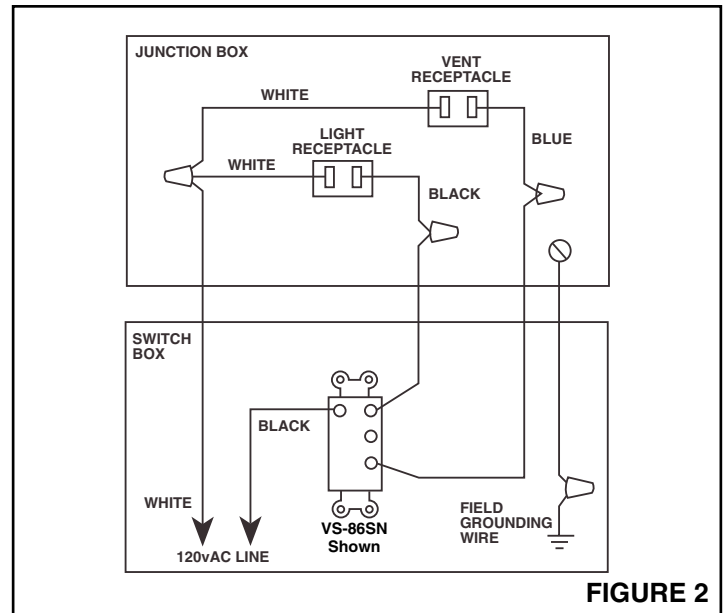

FIGURE 2
3. **Refer to fig. 2.** Connect white wires in junction box to white (neutral) supply wire. Connect the blue wire in the junction box to the supply wire from the vent switch. Connect the black wire in the junction box to the supply wire from the light switch. Connect green ground wire in junction box to the supply ground.